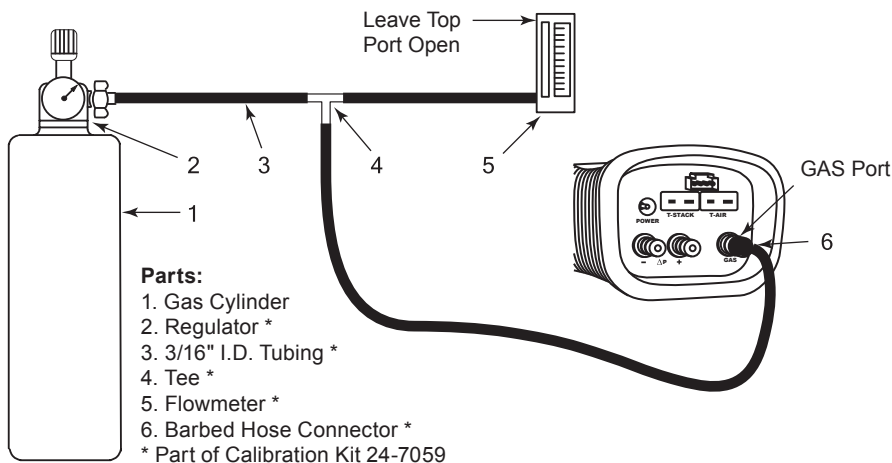

Figure 5-2. Gas Sensor Calibration Equipment
3. Attach a 500 ppm CO cylinder to the regulator of the calibration fixture shown in Figure 5-2 on Page 5-14.
3. Attach a 100 ppm SO2 cylinder to the regulator of the calibration fixture shown in Figure 5-2 on Page 5-14.
3. Attach a 250 ppm NO cylinder to the regulator of the calibration fixture shown in Figure 5-2 on Page 5-14.
3. Attach a 100 ppm NO2 cylinder to the regulator of the calibration fixture shown in Figure 5-2 on Page 5-14.
- Attach a 4,000 ppm CO cylinder to the regulator of the calibration fixture shown in Figure 5-2 on Page 5-14.